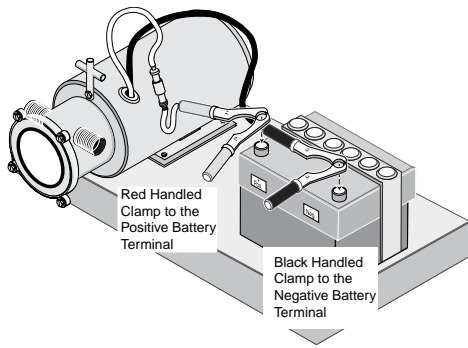

Figure 1 - Wiring Connections
NOTICE This pump is equipped with a permanent magnet type 12 Volt reversible DC motor. Be sure it is connected properly as illustrated for the direction of flow indicated by the arrows on the pump case (see Figure 1).
- Connect the motor lead wires as indicated in Table I and as shown in Figure 1. Pump will start immediately when connected to power.